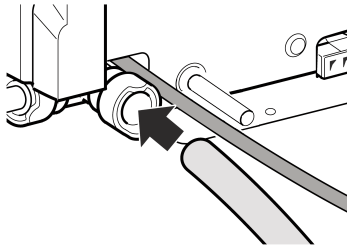

Fig. 23
Step 12 Connection to cold water supply (see Figs. 23 & 24)